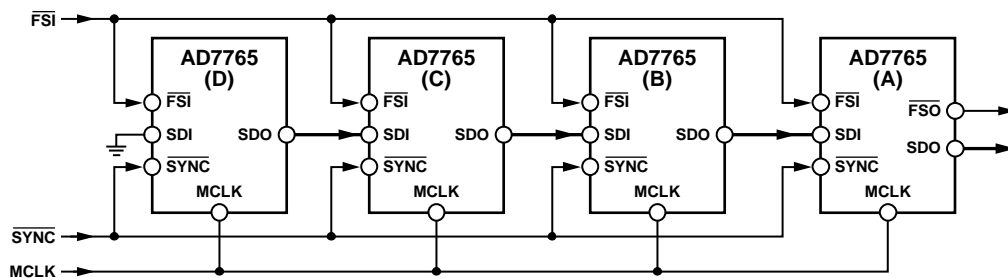

Figure 40. Daisy Chaining Four Devices in Decimate 128× Mode Using a 40 MHz MCLK Signal
The block diagram in Figure 40 shows how to connect devices to achieve daisy-chain functionality. Figure 40 shows four AD7765 devices daisy-chained together with a common MCLK signal applied. This configuration works in decimate 128× or decimate 256× mode only.
Referring to Figure 40, note that the SDO line of AD7765 (A) provides the output data from the chain of AD7765 converters. Also, note that for the last device in the chain, AD7765 (D), the SDI pin is connected to ground. All of the devices in the chain must use common MCLK and SYNC signals.